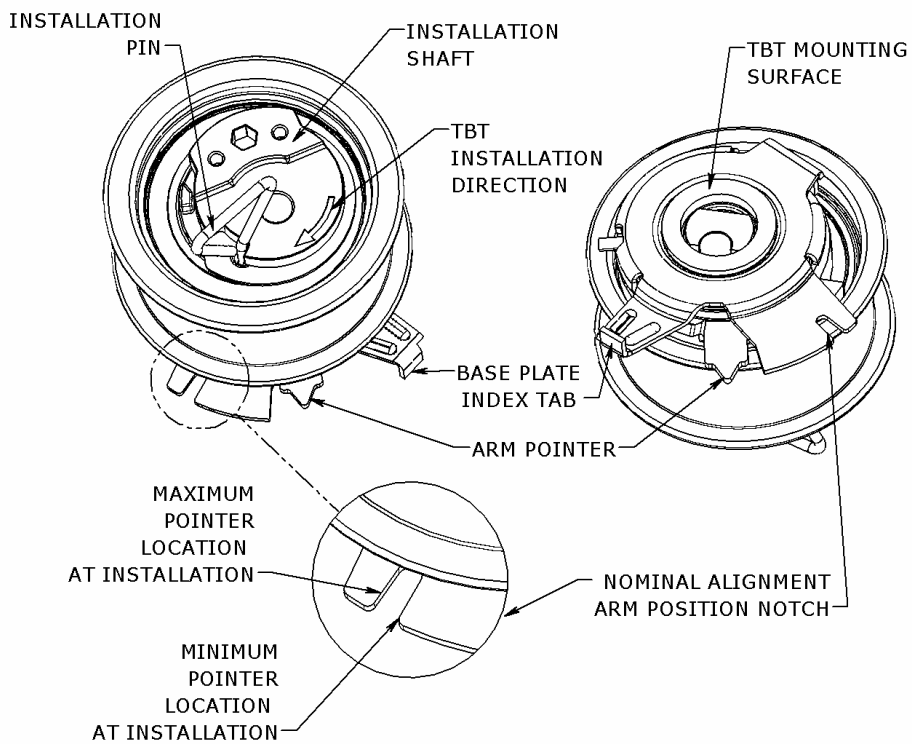

Figure 6: Initial Setup of the TBT
**If the alignment of the crankshaft and the engine block is missed, do not rotate the Crankshaft counterclockwise to the correct position, but rather rotate the Crankshaft two (2) more full rotations with the camshaft to the timing position. This is to be accomplished while the belt is still attached.**
6. Install the new tensioner (see Fig. 6) on the engine mounting stud ensuring that the anti-rotation index tab of the base plate is engaged with the anti-rotation slot on the plastic cover of the cylinder block.